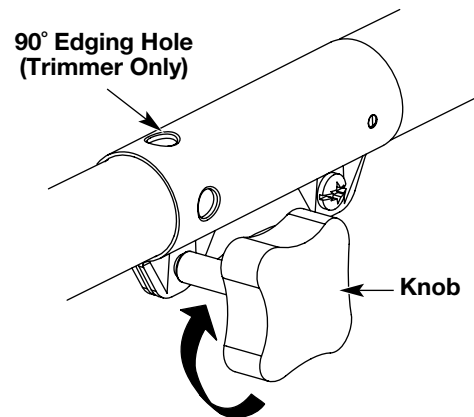

Fig. 21
3. Turn the knob clockwise to tighten (Fig. 21).
For edging (when using the line head cutting attachment with EZ-Link™ models), lock the release button of the cutting attachment into the 90° edging hole (Fig. 21).